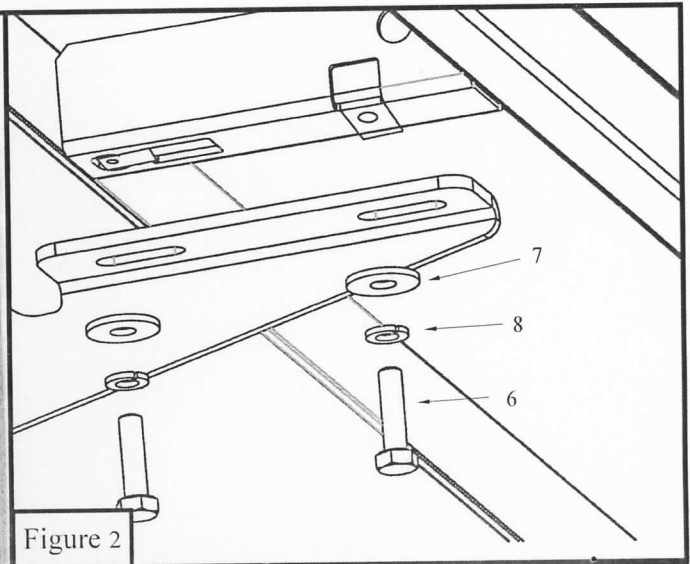

Figure 2
- Take the drivers side running board and place it onto the mounting bracket cradles; align the running board with the mounting holes in the brackets and attach using (6) M8 hex head bolts (item 6), (6) M8 lock washers (item 8), and (6) M8 large flat washers (item 7) **Figure 2.** Do not fully tighten at this time.